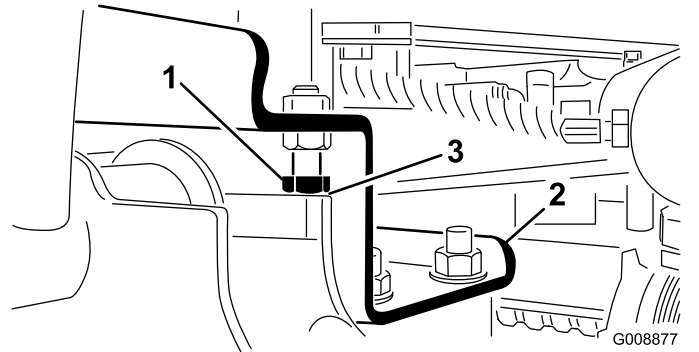

Figure 26
A. Back off the stop bolts and adjust the cylinder to attain the clearance (Figure 26).
2. Check to ensure that the clearance between each lift arm and stop bolt is 0.13 to 1.02 mm (0.005 to 0.040 inches) (Figure 26).